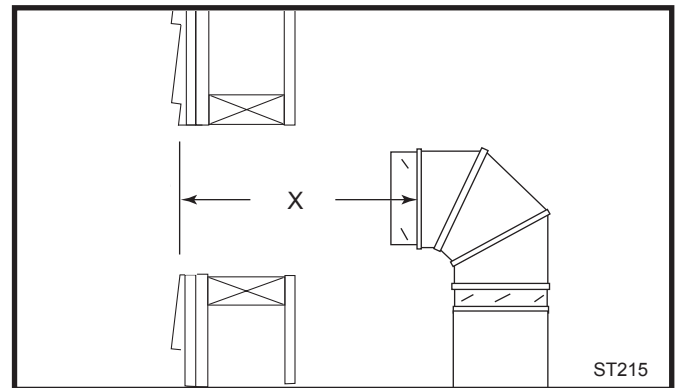

Fig. 27 Measure the horizontal length.
7. Measure, and cut if needed, the appropriate length of pipe section needed to make the connection through the wall. Include a 2" overlap; i.e. from the elbow to the outside wall face, about 2" or the distance required if installing a second 90° elbow. (Fig. 27)